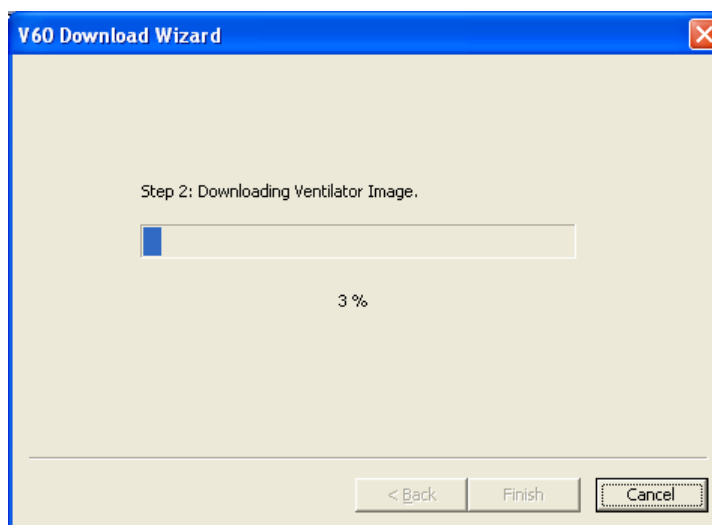

Figure A-6: Ventilator Image Download
13. When the updater image download is complete the ventilator image download starts automatically (Figure A-6).